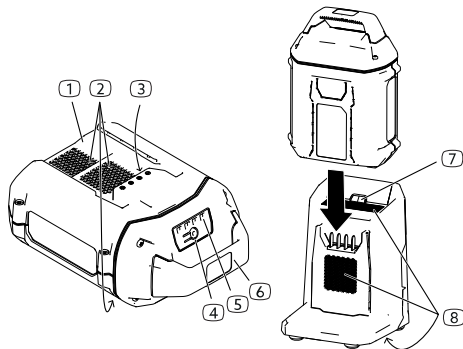

Figure 5
2. Line up the cavity in the battery pack with the tongue on the charger Figure 5.
3. Slide the battery pack into the charger until it is fully seated Figure 5.